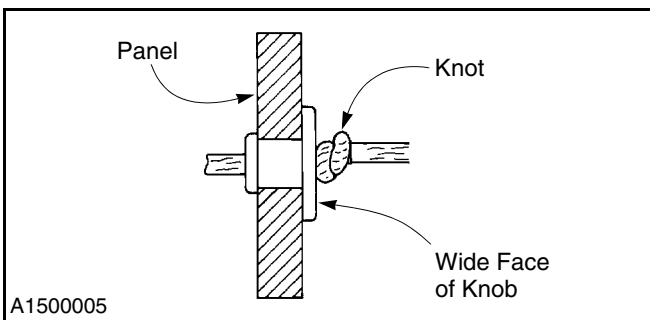
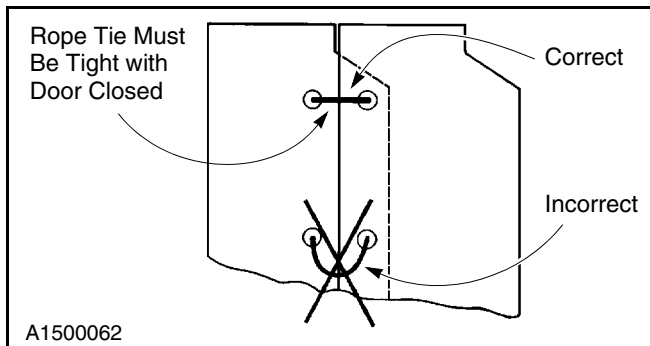

Figure 57
Figure 58
10. To secure the rope tie, tie a knot close to the wide face of the second knob. There should be no slack in the rope tie when the door is fully closed. (See Figure 57 and Figure 58.)